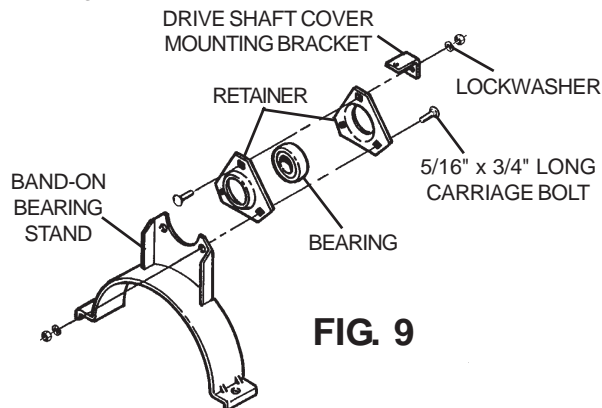

FIG. 9
Step 1. Bolt bearings to band-on bearing stands. (On 47' models, bolt bearings to the welded bearing stand on the lower tube section.) Attach each bearing using two retainers and one drive shaft cover mounting bracket. (See Fig. 9)